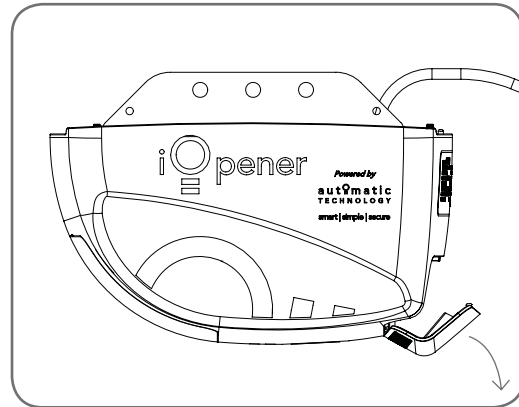

fig 17
- Remove the transparent controls cover to access to the control panel (**Fig. 17**)